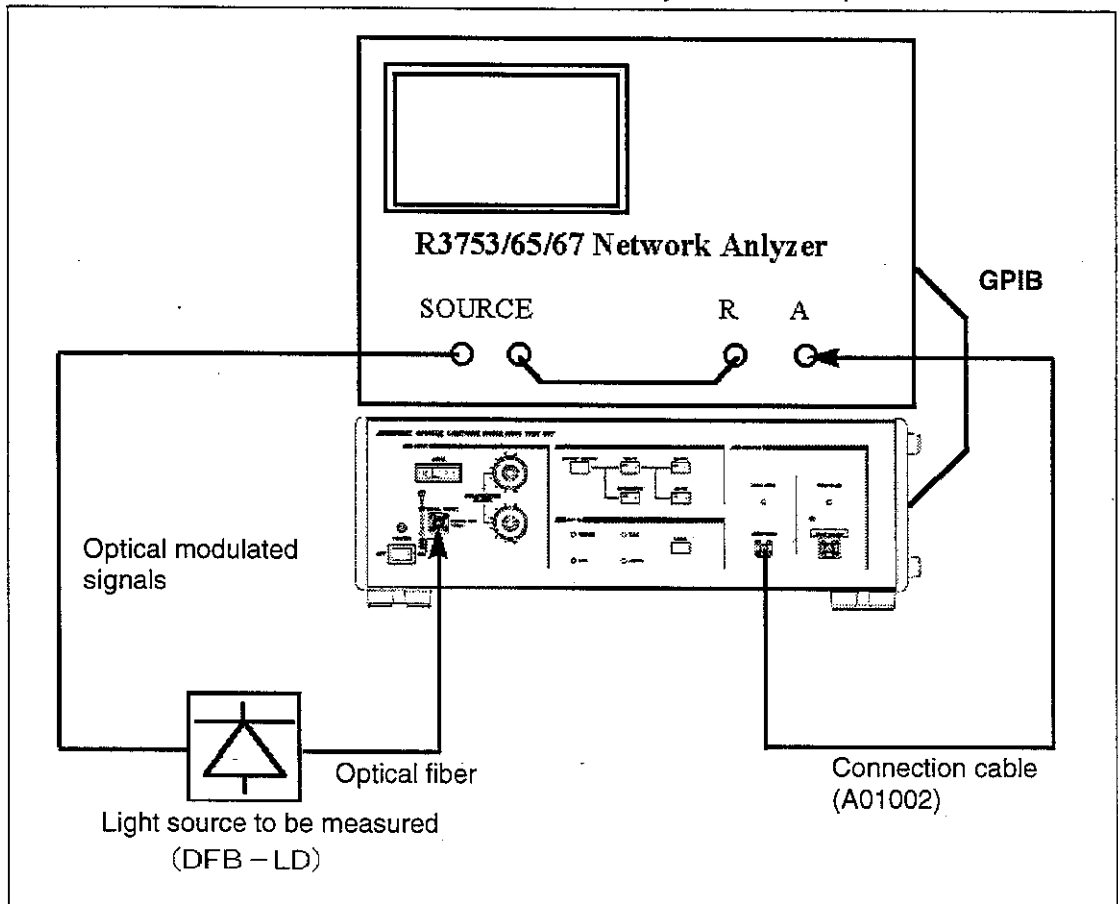

Figure 5-1 Typical Measurement System Configuration
- (1) Connect the Q7605A/B, network analyzer, and source of the light to be measured (DFB-LD) as shown in Figure 5-1.
- (2) Apply the network analyzer output signal to the DFB-LD bias signal.
- (3) Connect the DFB-LD optical output to the Q7605A/B OPTICAL INPUT connector. Connect the Q7605A/B output to the network analyzer receiver input connector.